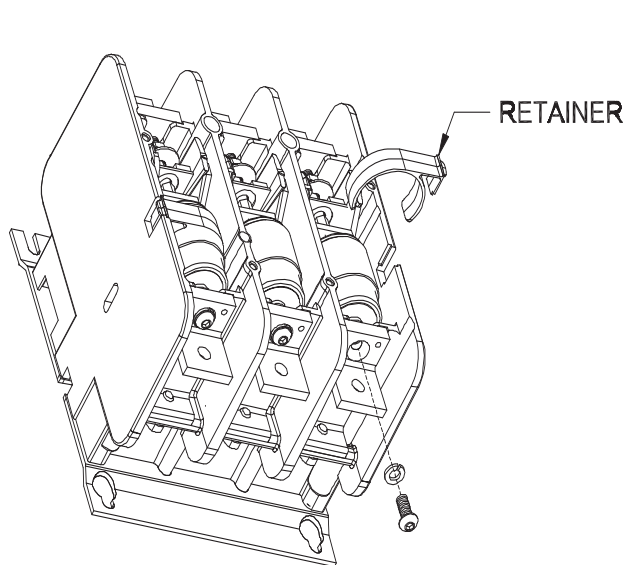
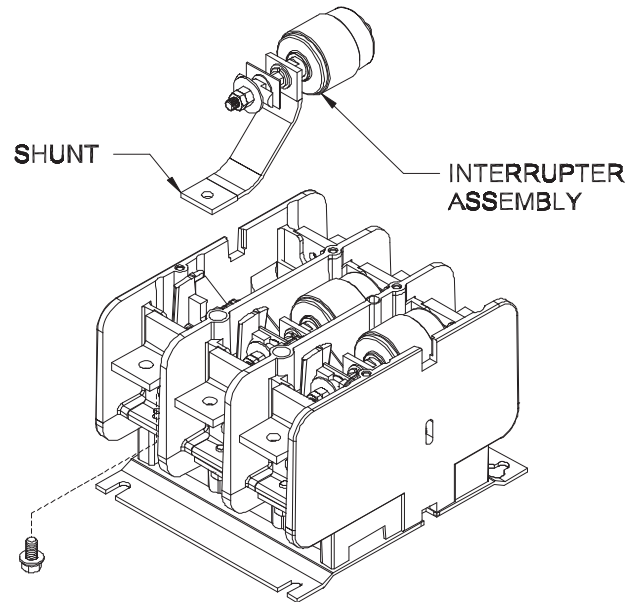

FIGURE 6A
FIGURE 6B
6. For the outer interrupters, remove the Retainer. Remove the screw from the line side terminal (Figure 6A).
7. Remove the screw from the load side terminal. This will free the shunt. Note the position of the shunt prior to removing the interrupter assembly. Carefully remove the interrupter assembly (Figure 6B).
8. The replacement interrupter is factory set for contact gap and does not require adjustment in the field. The flexible shunt will feed through the flexible shunt path in the molding of the contactor and the assembly can be pushed firmly back into place, observe the adjacent phases to see precisely how this is located. Replace the line terminal screw (See Figure 6A). Replace the shunt connection (See Figure 6B). Tighten bolts to 60-80 inch lbs.